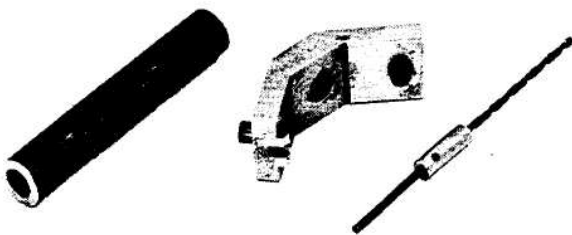

Figure 27. Drill Fixture.
- c. Drill fixture, Borroughs P/N 8094A. (See Figure 27)